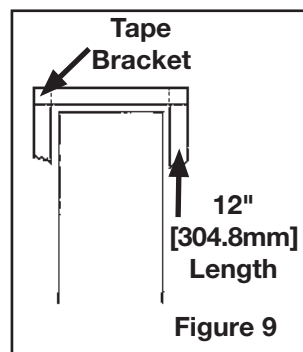
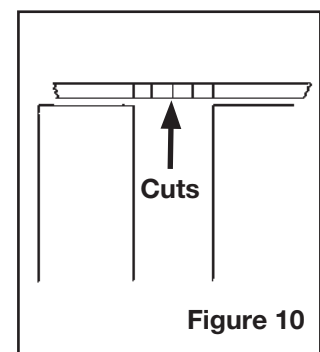

Figure 9
Figure 10
5. To prevent long sections of tape lifting where traffic crosses the tape lines, either bracket (**Figure 9**) or cut width-wise every 4 to 6 inches [100 to 150mm] (**Figure 10**).
Note: If damage to the tape should occur, the cutting technique allows for the easy removal and repair of damaged sections - (**Figure 10**).